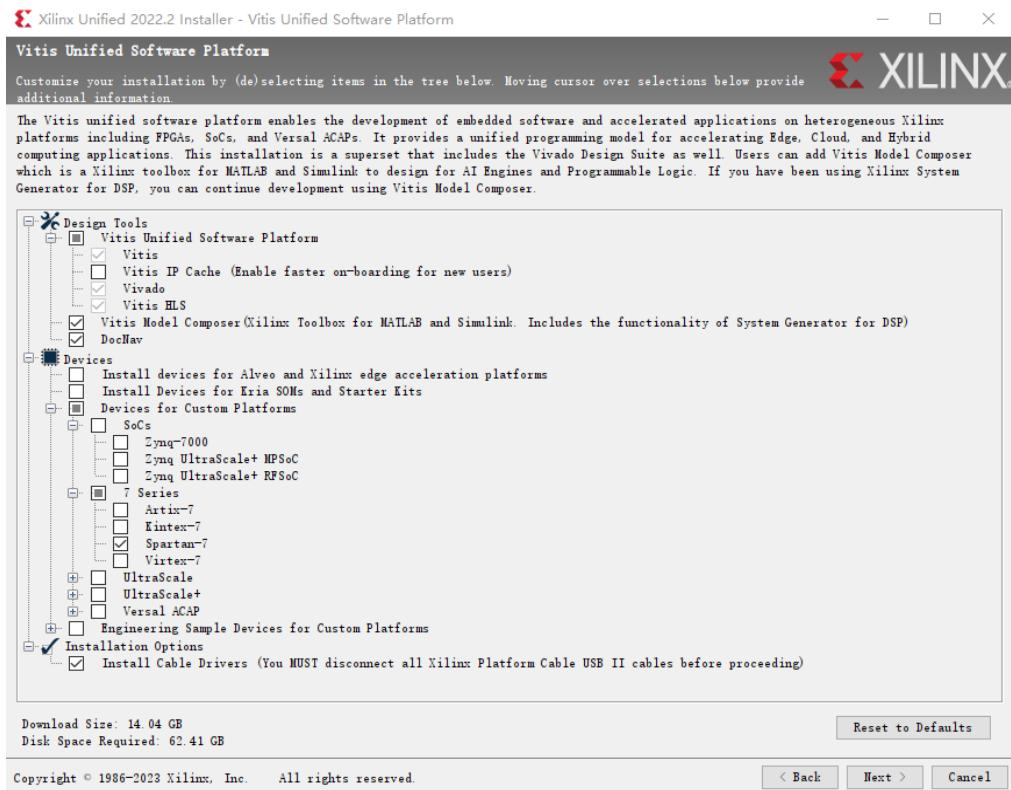

Figure 1 - Minimal Install for ECE 385
- Open the installer, press **Next**. Fill in your User information for your Xilinx account, choose **Download and Install Now**, click **Next**. Select **Vitis** as the product to install, click **Next**. Mark related boxes for installation guided by Figure 1, click **Next**. Select installation destination, disk usage is around 63 GB. Click **Next** and start installation.